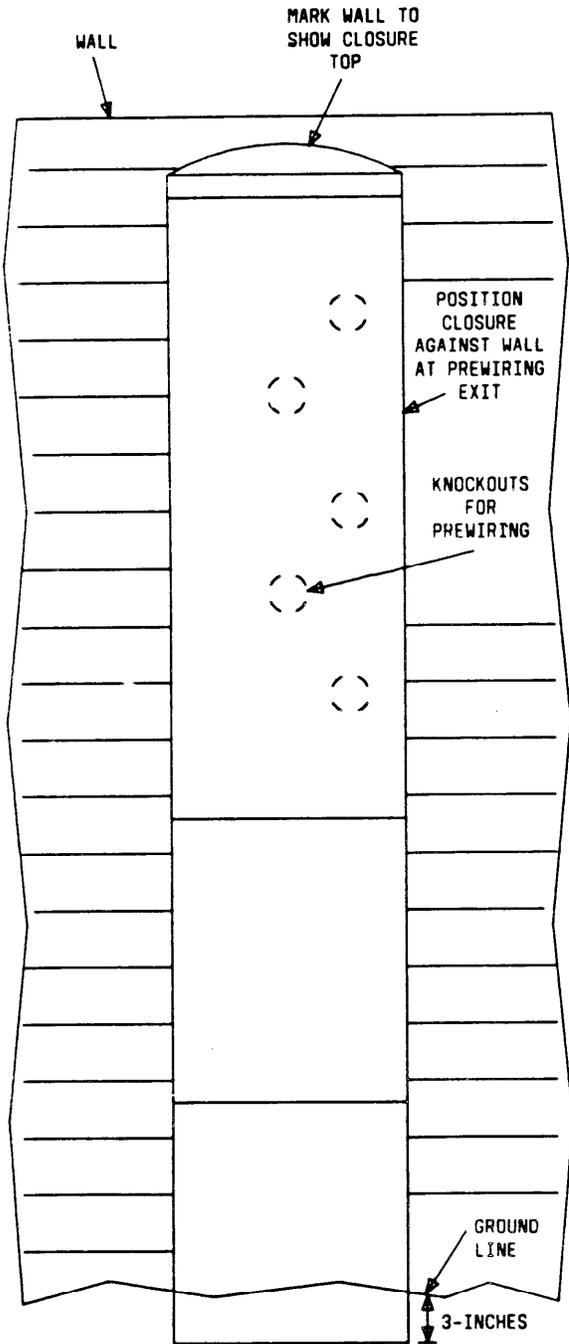

Fig. 4 - Position Closure and Mark Wall
- 3.03 Position the closure on the wall so the prewiring will align with one of the five 1-3/4" knockouts and the lower cover will maintain a minimum depth of 3" with the final grade. Mark the wall to show the closure top (Fig. 4) (marking must not be objectionable to building owner).